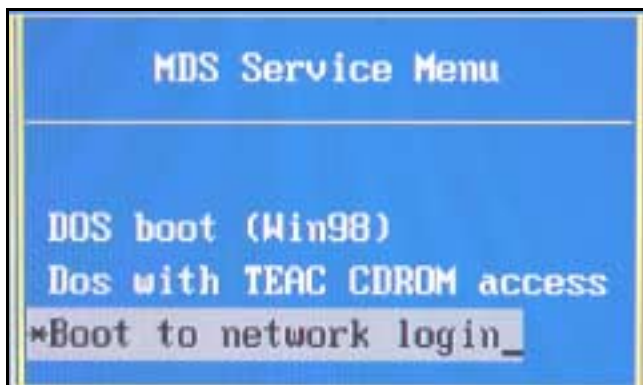

Figure 3-15 MDS Service Menu
9. Verify MDS reboots to “MDS Service Menu” (see Figure 3-15).